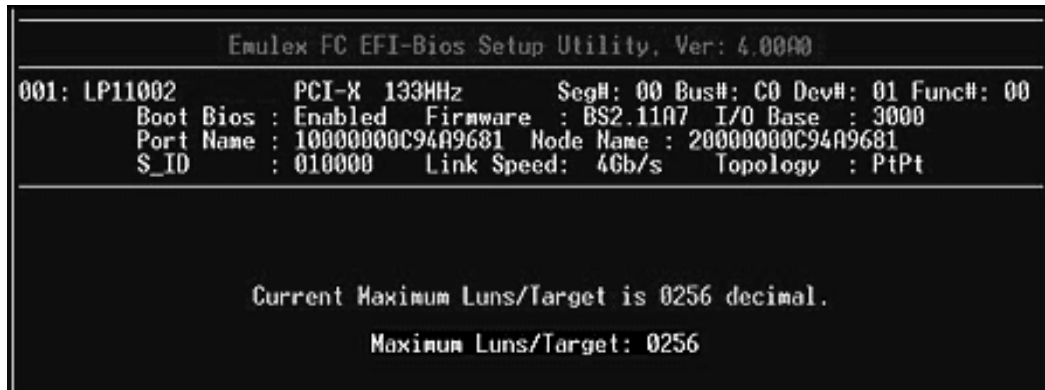

Figure 36: Current Maximum LUNs screen
1. On the Boot Configuration menu, select **2. Maximum LUNs/Target** and press **<Enter>**. The screen shown in Figure 36 is displayed.